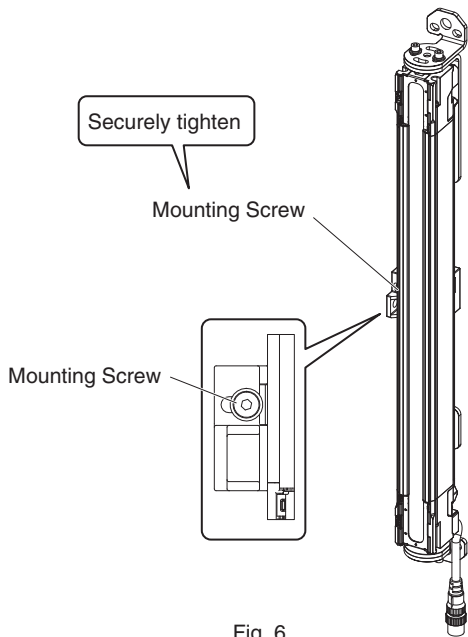

Fig. 6
5. Securely tighten the Mounting Screw to fix the Side-Mount Bracket to the sensor housing. The recommended torque to tighten the Mounting Screw of the Side-Mount Bracket is 3.0 N•m. (Fig. 6)